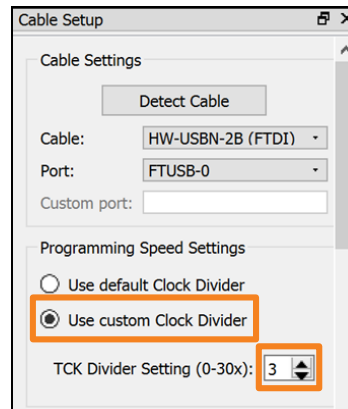

Figure 9.1. TCK Frequency Settings
- If there is a verification error when programming the .bit file, try changing the TCK frequency by setting **TCK Divider Setting** to greater than three (3). Click **Program** to restart programming (Figure 9.1).